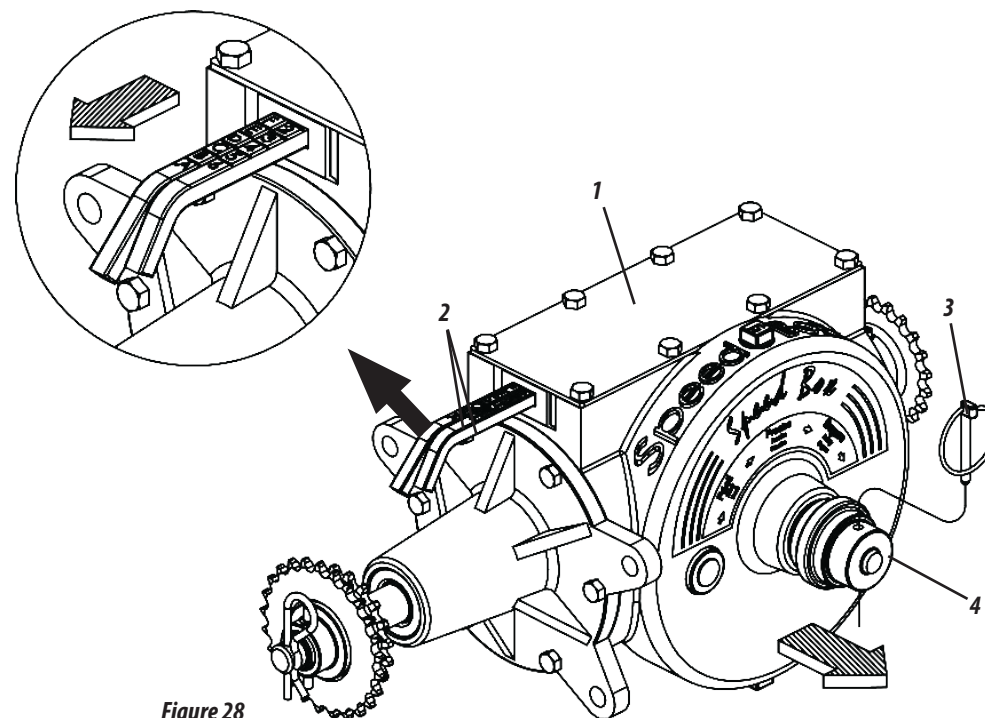

Figure 28
SPEED BOX (FIGURE 28)
- 1- Select the desired quantity in the Tables and check the corresponding combination on the levers (2). Example: Position F2 in the Table, indicates that the lever with letters must be in the "F" position and the lever with numbers must be in the "2" position, **as shown in Figure 28.**
- 2- To move the levers, remove the lock (3), pull the handle (4), then adjust the levers as shown above. When finishing the combination, return the handle (4) and replace the lock (3).